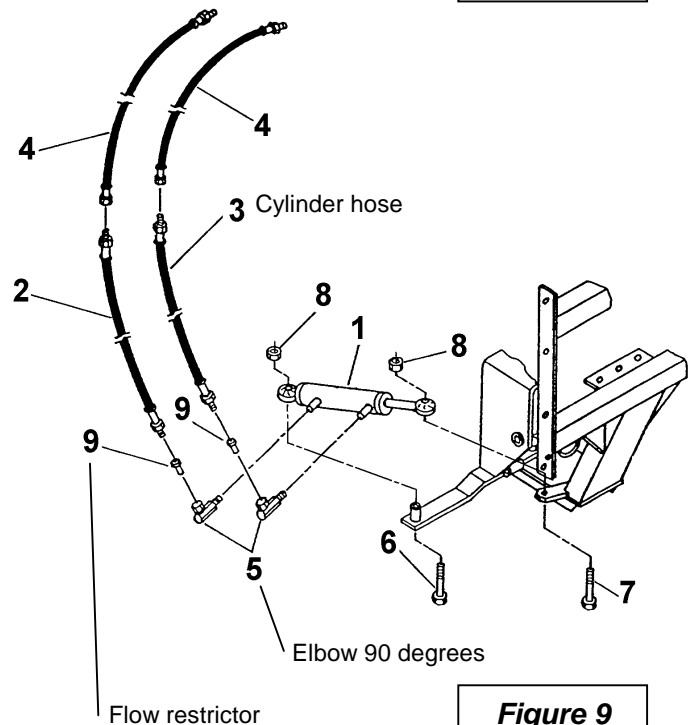

Figure 9
2. With the cylinder ports facing you, install the cylinder base end on the pivot arm. Secure from under the pivot arm with a 5/8"NC x 3 1/2" carriage bolt and 5/8"NC stover nut (fig.9, items 6-8).
3. Install the cylinder rod end to 3 point frame using a 5/8"NC x 2 1/2" hex. bolt and 5/8"NC stover nut (fig.9, items 7-8).
4. Using thread sealant, install a 90° elbow (fig.9, item 5) in each cylinder port. Set both elbow at an appropriate angle to facilitate the routing of the hoses under the tension adjustment spring (approximately 2 o'clock).
5. Using thread sealant, install a flow restrictor (fig.9, item 9) in the two 90° elbows and connect the 3/8" x 47" hose (fig.9, item 3) to the cylinder base end elbow and the other 3/8" x 42" hose (fig.9, item 2) to the other cylinder end.
6. Connect the other cylinder hoses ends to the extension hoses (fig.9, item 4):